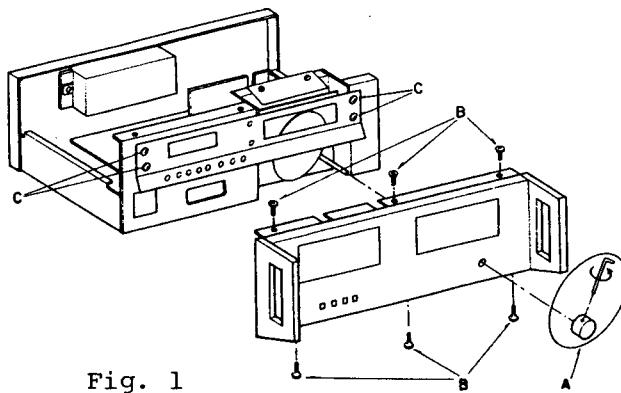

Fig. 1
- 2) Loosen a set screw with a hexagonal screw driver having 2 mm width across flats and pull off the tuning knob frontward. (marked A on Fig. 1)
- 4) Take off six set screws (marked B on Fig. 1) and disassemble the front panel frontward.
- 5) Remove four set screws (marked C on Fig. 1) and disassemble the shield plate.